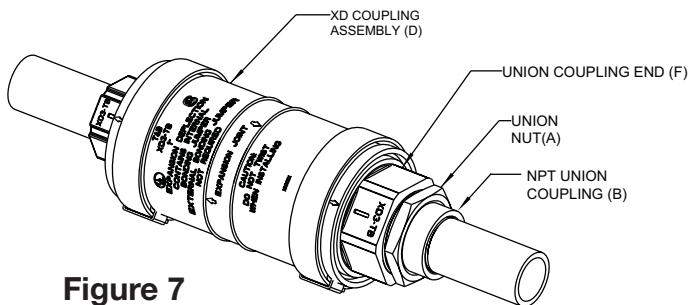

Figure 7
6. Slide Union Nut (A) back over and thread Union Nut (A) into Union Coupling End (F) until it completely seats on NPT Union Coupling (B). Finish tightening Union Nut (A) with a wrench (wrench-tight). Final assembly will look like Fig. 7.